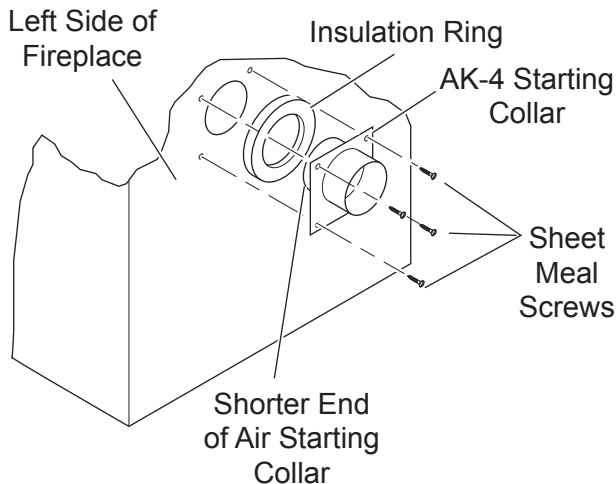

Figure 20 - Attaching Outside Air Starting Collar and Insulation Ring to Left Side of Fireplace
3. Place the starting collar (4") into the hole on the side of fireplace. Fasten it in place with the four sheet metal screws provided. *See Figures 20 and 21.*